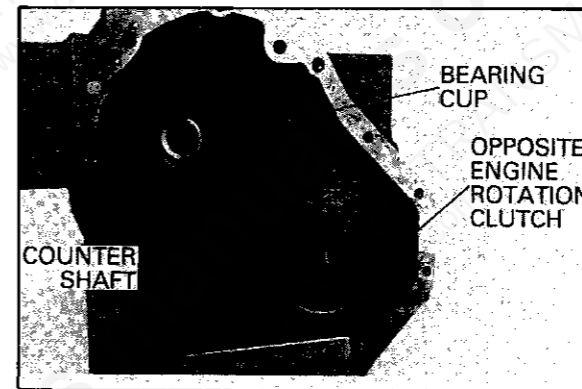

FIG. 43 OPPOSITE ENGINE ROTATION CLUTCH INSTALLATION
50. Lower each clutch assembly into position with the rear bearing cone seated in the bearing cup. Place the front bearing cup over each shaft. Center the two clutch assemblies in a vertical position (Fig. 43).